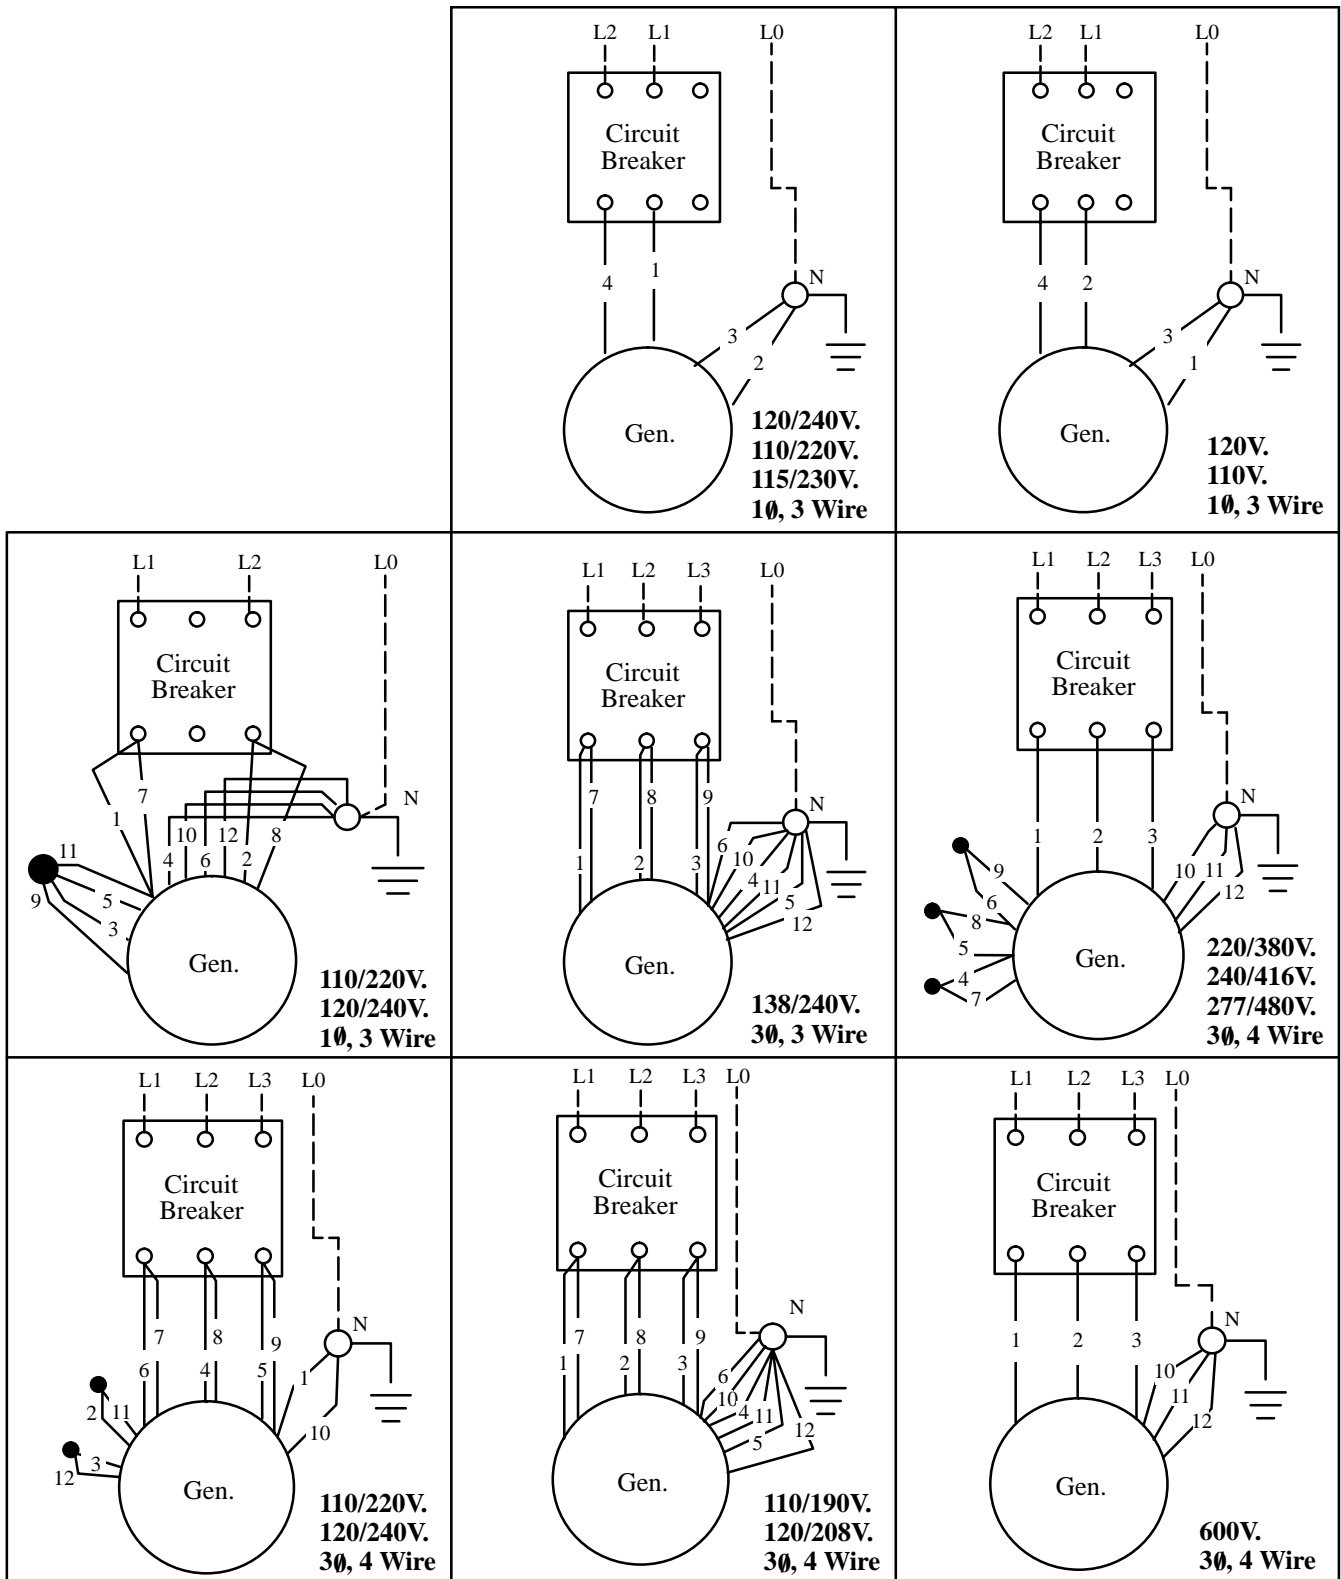

Figure 1. Circuit Breaker Wiring Diagrams
3. Wire the circuit breaker according to the proper wiring diagram. See Figure 1.